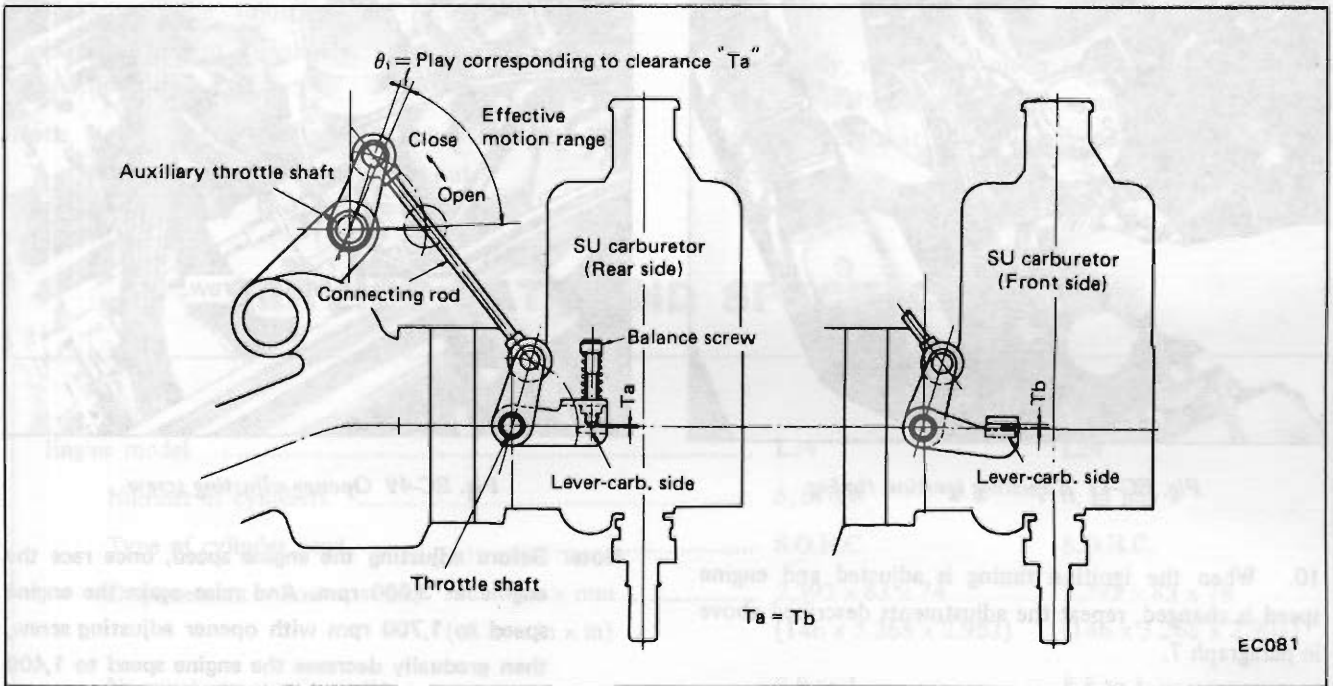

Fig. EC-45 Adjusting idle speed and mixture
d. When the throttle adjusting screw is returned during the above adjustment and engine speed cannot be reduced below 750 rpm, other adjusting screws such as opener adjusting screw ⑬ and balance screw ⑭ must have been tightened excessively or the accelerator linkage must have been adjusted incorrectly. Under the normal condition, the auxiliary throttle shaft ⑧ and throttle shaft ⑪ should have a slight play during engine operation under the idling speed. In other words, the auxiliary throttle shaft ⑧ should be provided with a play "ℓ" which corresponds to the clearance $T_a - T_b$ as shown in Figure EC-45.